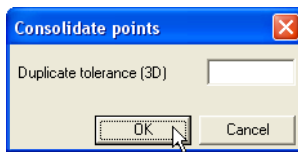

Figure 5-15. Enter the Duplicate Tolerance of Points
2. Enter the tolerance value and click **OK** (Figure 5-15). The tolerance value specifies the 3D distance used to consider two point to be duplicates. 3D-Office consolidates duplicate points (removing one of them from the TIN data set) and regenerates the TIN model.